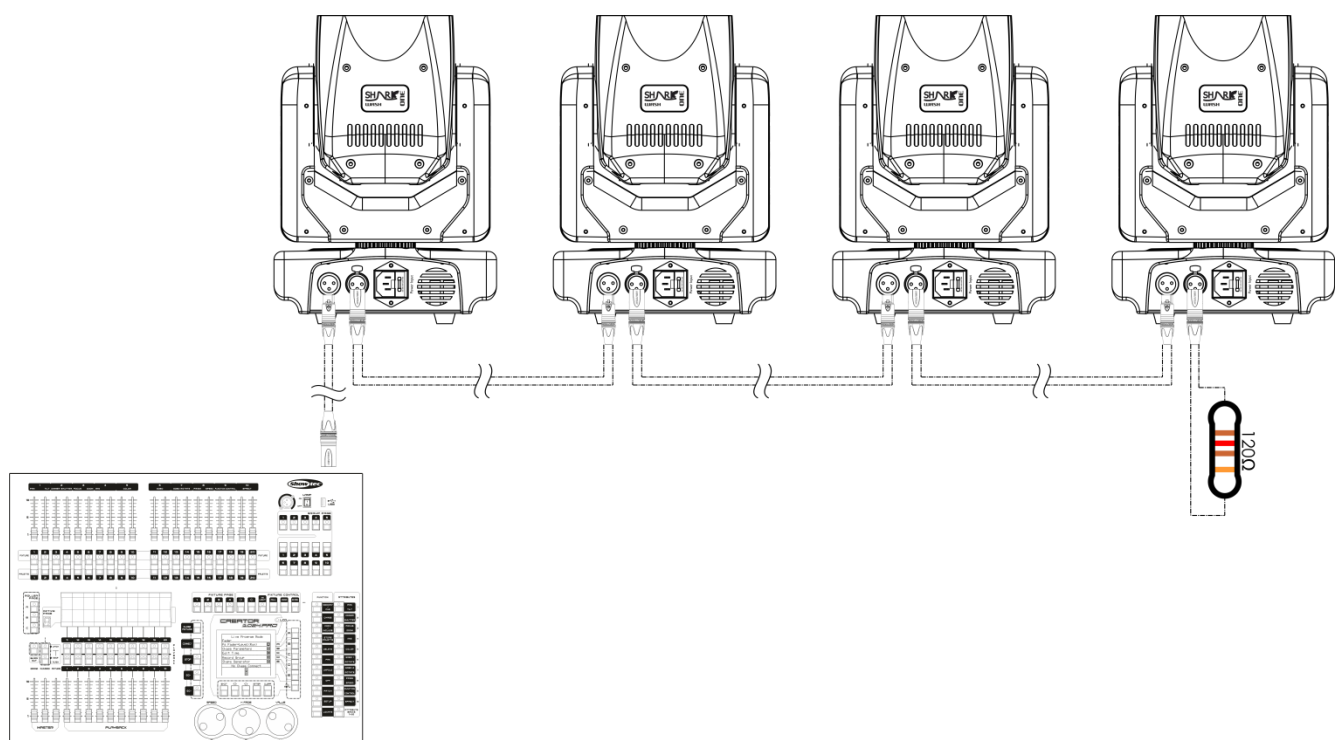

Fig. 04
- 04) Link the units as shown in (Fig.04), Connect a DMX signal cable from the first unit's DMX "out" socket to the second unit's "in" socket. Repeat this process to link the second, third, and fourth units.